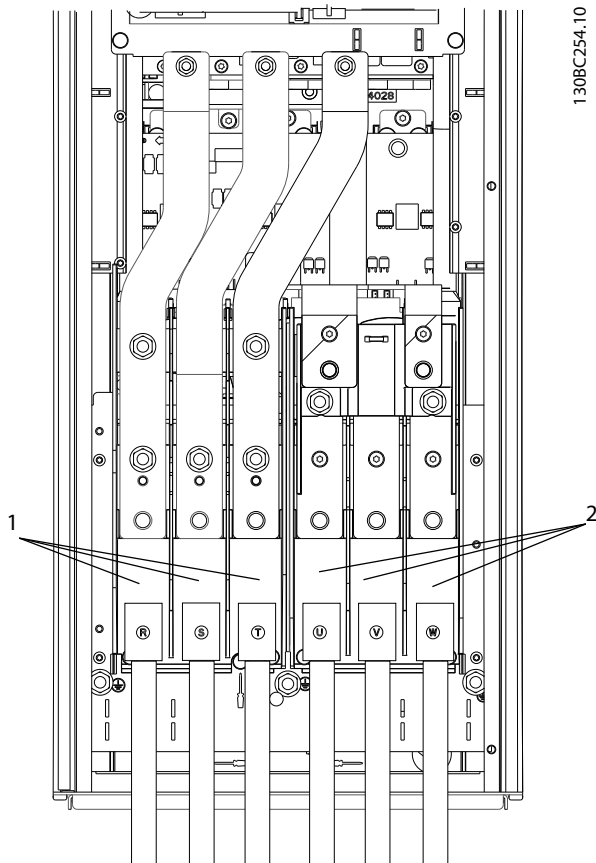

Figure 2.13 Connecting to AC Line Power
- Connect 3-phase AC input power wiring to terminals L1, L2, and L3 (see Figure 2.13)